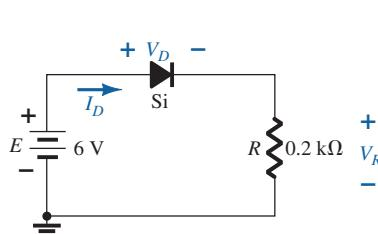

FIG. 153
2. a. Using the characteristics of Fig. 152b, determine I_D and V_D for the circuit of Fig. 153.
3. Determine the value of R for the circuit of Fig. 153 that will result in a diode current of 10 mA if $E = 7$ V. Use the characteristics of Fig. 152b for the diode.